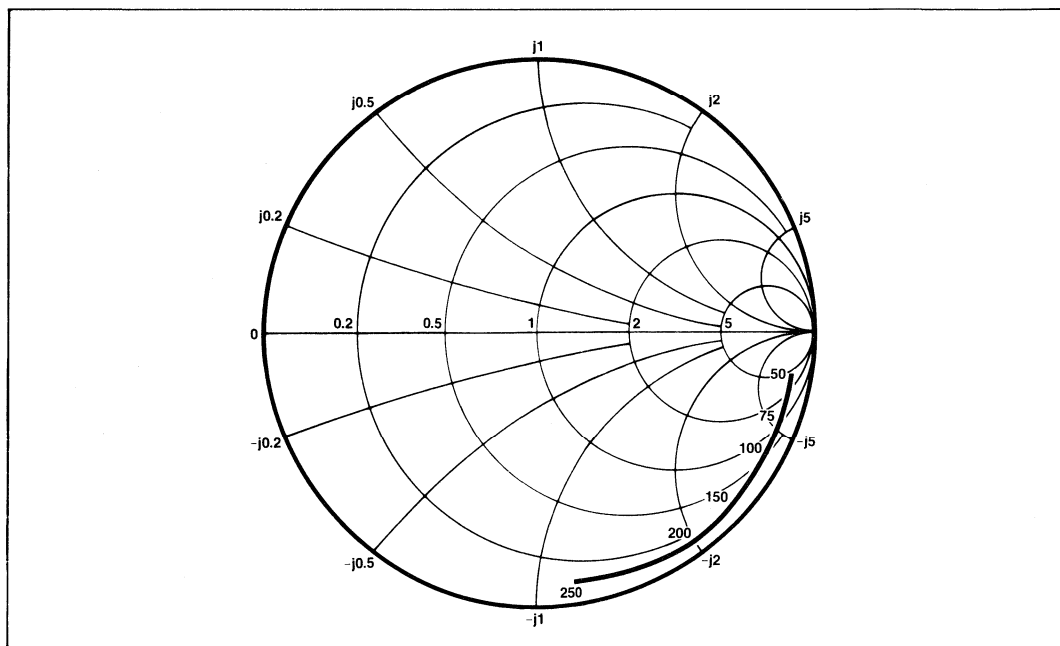

Fig.5 Typical input impedance. Test conditions: supply voltage 5.2V, ambient temperature 25°C, frequencies in MHz, impedances normalised to 50 ohms.
5. Input impedance is a function of frequency. See Fig.5.